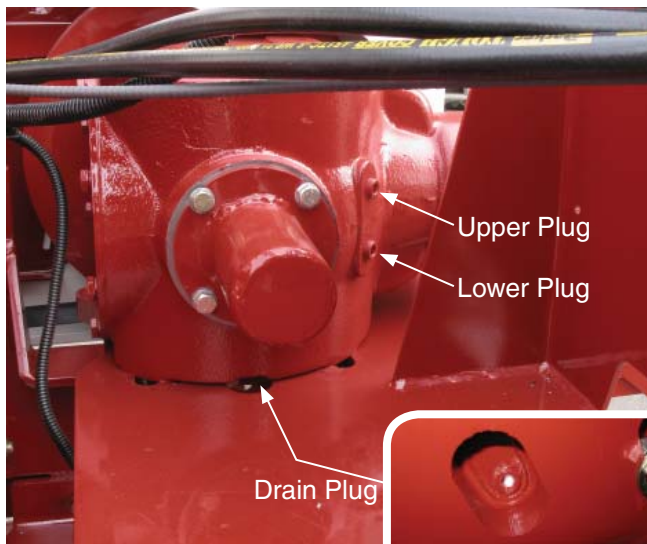

Figure 3 - Gearbox
With the baler sitting level, remove the lower plug. Oil should be level with the bottom of the opening (see Figure 3.) Add oil as necessary through the upper plug opening. Replace plugs and tighten securely.
5. Add new oil through the upper opening until it is level with the lower opening (see Figure 3.) Replace plugs and tighten securely.